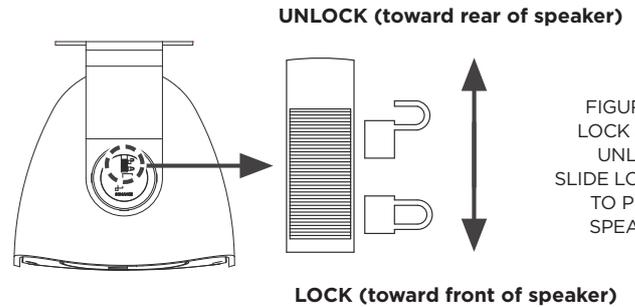

FIGURE 11:
1. Unlock the slide locks on the speaker pivots by moving them toward the rear of the speaker (see figure 11).